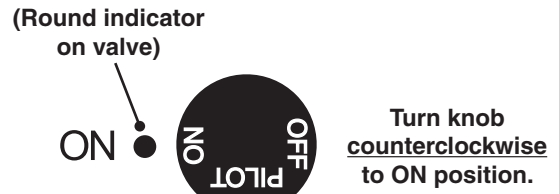

Fig. 30-1 Control knob detail (ON)
1. Ensure the pilot is burning and the glass panel is re-installed. Turn the PILOT/ON/OFF control knob counterclockwise to **ON** (see Fig. 30-1).